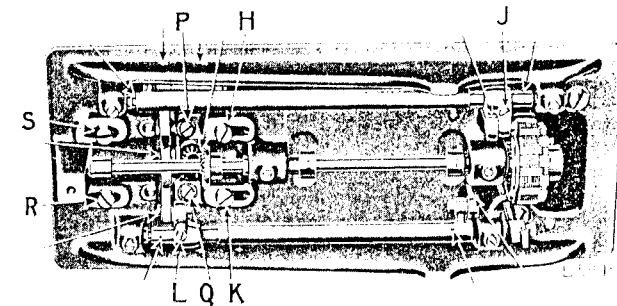

Fig. 4. Oiling Points in Base of Machine, also Adjustments on the Machine
Turn the machine back on its hinges and apply oil at the places shown in Fig. 4, then bring the machine forward into place.
Tip the machine back and turn the balance wheel toward you until the feed dog is at its highest position. Loosen the pinch screw (L, Fig. 4) in the feed bar slide block crank on the feed lifting rock shaft and move the crank up or down until the feed dog is at the desired height, then retighten the pinch screw (L).
If the feed dog strikes the end of the feed dog slot in the throat plate, loosen the pinch screw (J, Fig. 4) of the feed driving connection crank at the right hand end of the rock shaft, then set the feed dog so that it will not strike when the longest stitch is taken, and retighten the pinch screw (J).
The sewing hook can be moved to or from the needle by loosening the screw (C, Fig. 2) at the front of hook post and the two screws (H and K, Fig. 4) underneath the bed of the machine and moving the hook post to the right or left as may be necessary to bring the hook into proper relation with the needle. When the sewing hook is correctly adjusted, firmly tighten the three screws (C, H and K).